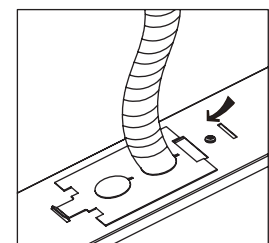

Figure 5
4. Replace the access plate (Part B) and tighten the screw (Part A). (Figure 5)